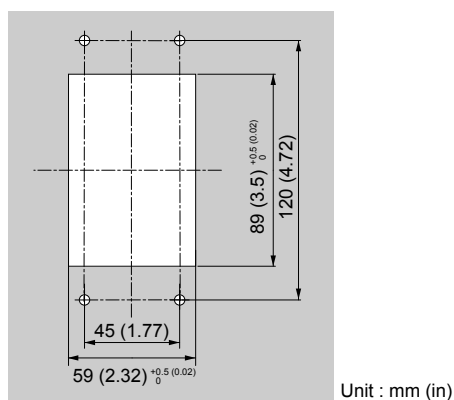

Figure 2.11 Panel Cut-Out Dimensions (Internal/Flush-Mount Installation)
1. Cut an opening in the enclosure panel for the HOA keypad as shown in **Figure 2.11**.